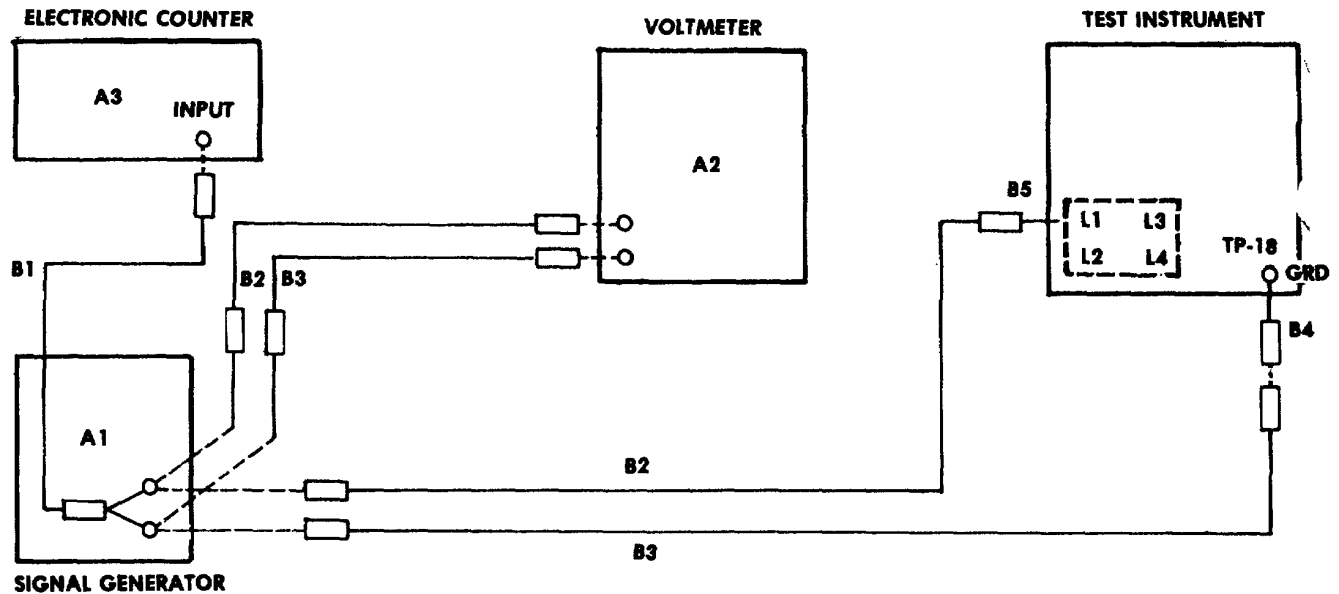

Figure 1. Inductor Equipment Setup (Front View)
- (1) Connect equipment as shown in figure 1.
- (2) Adjust signal generator (A1) for 400 Hz  $\pm$  1 Hz on counter (A3) and output control for 18 vac as indicated on voltmeter (A2).
- (3) Disconnect voltmeter test lead (B2) only from signal generator and connect to test instrument terminal E36 on terminal board, using adapter (B6).
- (4) Voltmeter will indicate between 12 and 12.5 vac. If not, perform b(1).
- (5) Disconnect signal generator test lead from L1 pin 1 and connect to L2 pin 1. Remove voltmeter test lead from terminal E36 and connect to E35.
- (6) Voltmeter will indicate between 12 and 12.5 vac. If not, perform b(2).